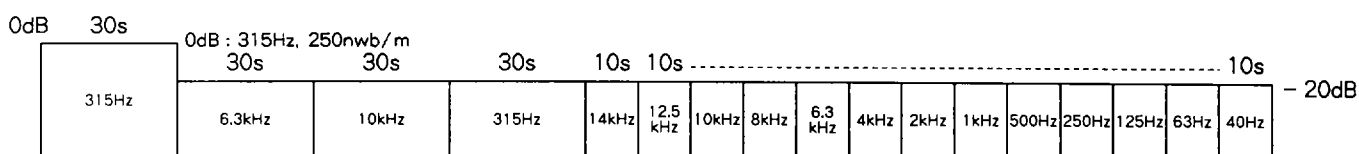

Fig. 7 - 8 STD - 331E Test Tape
- Adjustment point and test point are shown Fig.7 - 9 and 7 - 11.